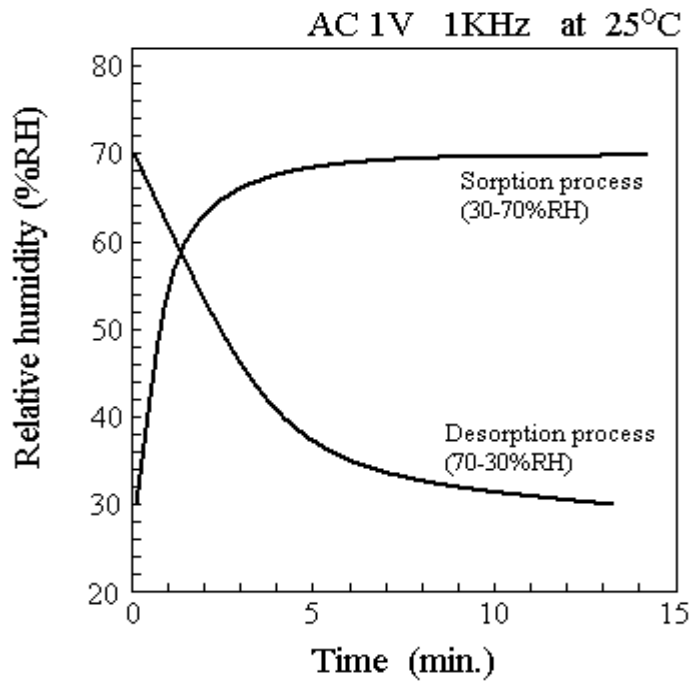

Fig.2 Typical Response Characteristics
- 12) Typical response characteristics : Shown in Fig.2